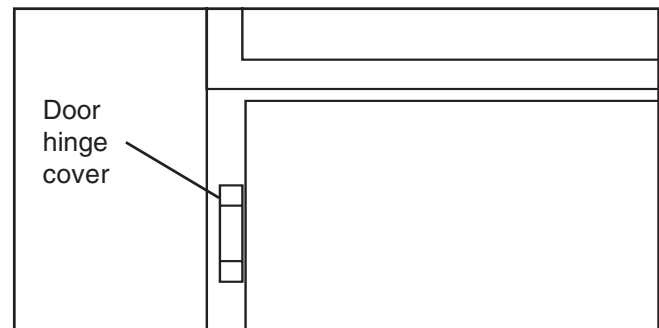

Figure 4. Door Hinge Cover
1. Remove top hinge cover from hinge as shown in Figure 4.